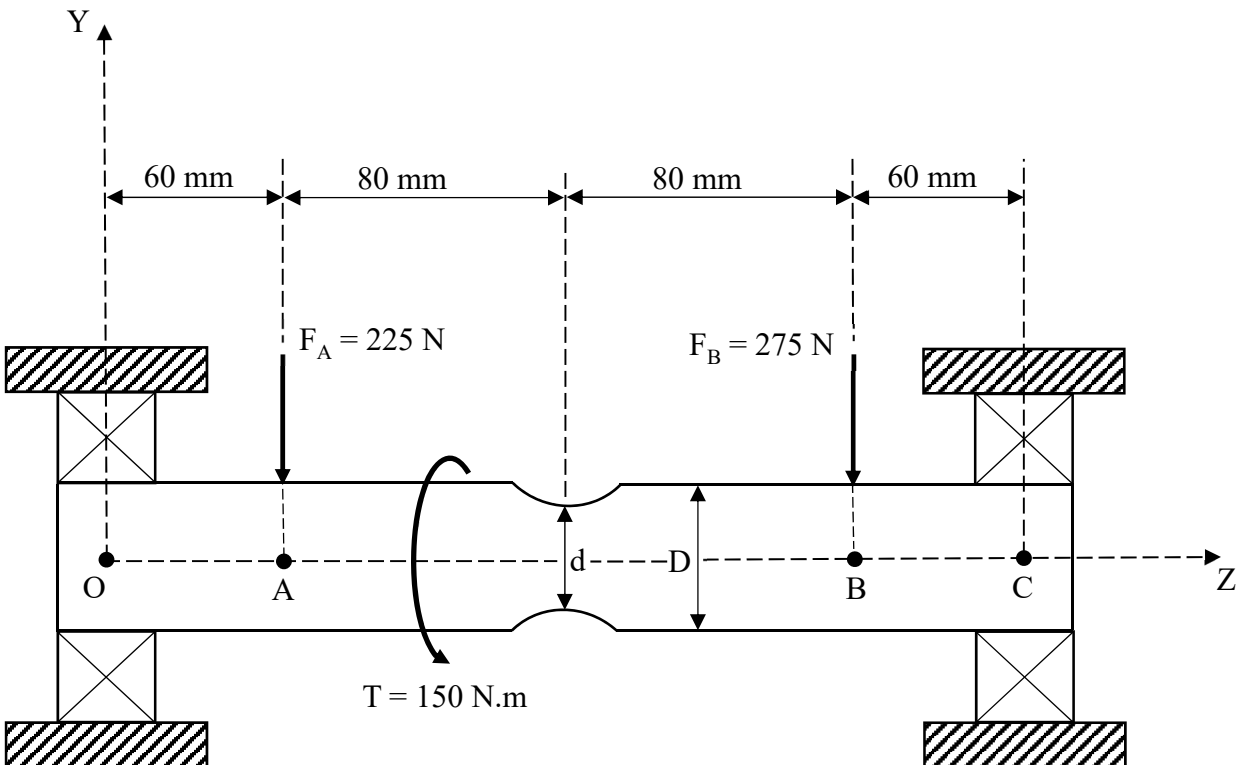

Figure 1. A simply supported rotating shaft (Not drawn to scale).
**Problem 1 (25 points).** The circular shaft shown in Figure 1 is rotating in the simply supported bearings at points O and C. The constant force at point A is  $F_A = 225 \text{ N}$ , the constant force at point B is  $F_B = 275 \text{ N}$ , and the constant shaft torque is  $T = 150 \text{ N.m}$ . The shaft has a tensile yield strength  $S_{yt} = 190 \text{ MPa}$ , a compressive yield strength  $S_{yc} = 220 \text{ MPa}$ , and an ultimate tensile strength  $S_{ut} = 335 \text{ MPa}$ . The fully corrected endurance strength of the shaft is  $S_e = 125 \text{ MPa}$ . The fatigue stress concentration factors at the groove in the shaft for normal stress are  $K_f = K_{fm} = 2.25$  and for shear stress are  $K_{fs} = K_{fsm} = 1.95$ . The infinite life fatigue factor of safety for the critical element at the mid-section of the shaft is  $n_f = 3$ .